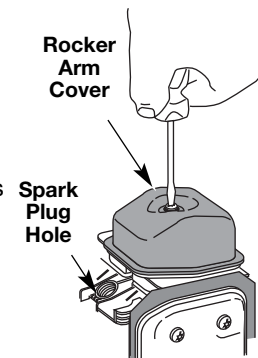

Fig. 28
5. Clean dirt from around the rocker arm cover. Remove the screw holding the rocker arm cover with a large flat blade screwdriver or Torx T-25 bit (Fig. 28). Remove the rocker arm cover and gasket.
1. Stop the engine and allow it to cool. Remove the six (6) screws on the back of the engine cover with a Flat-head or T-25 Torx screwdriver (Fig. 28).